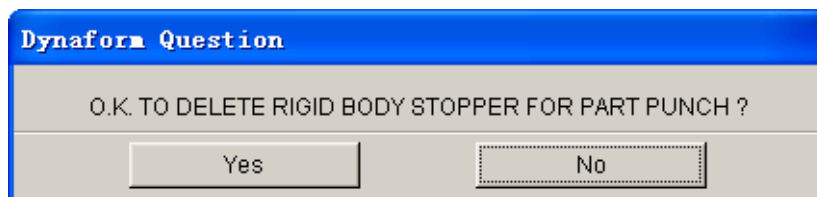

Figure 5.7.14 DYNAFORM Question Window
- Select DELETE to delete the defined stopper as in Figure 5.7.14.